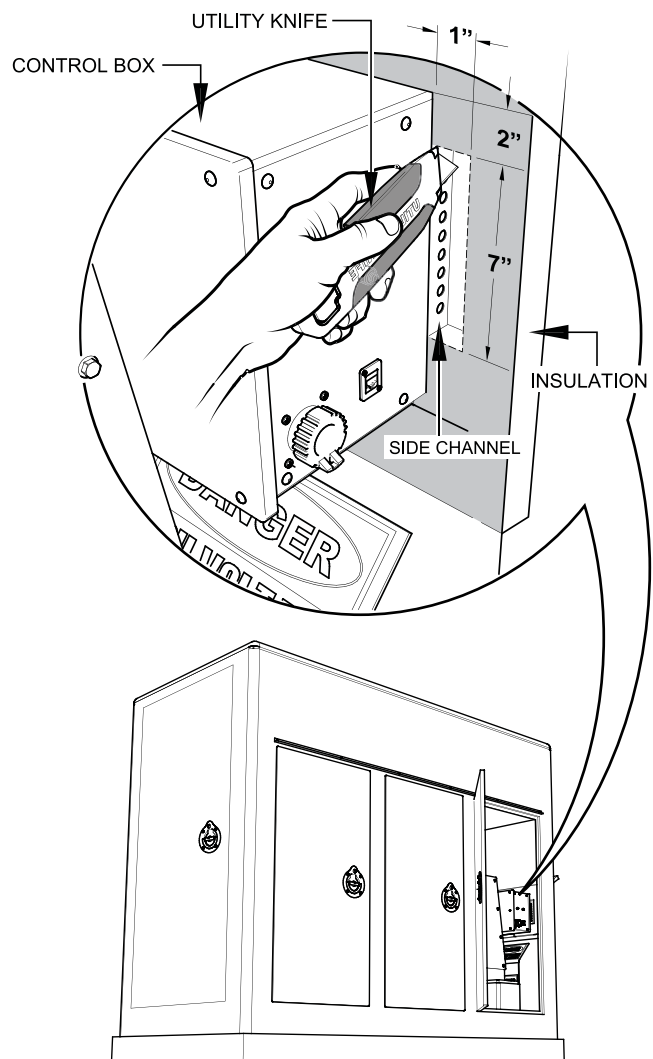

Figure 8. Insulation Cutting
1. Open the cabinet door and locate the control box as shown in Figure 8.
2. Using a sharp utility knife cut the insulation as shown in Figure 8 to expose the channel ventilation holes.